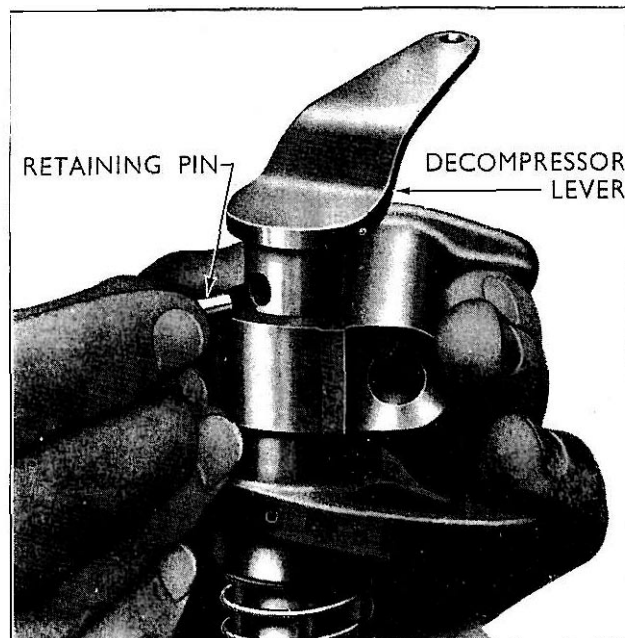

Fig. 3
- 1 Stand the assembly on end with the decompressor lever uppermost, push the rocker levers, springs, eccentric sleeves and support brackets downwards until the pin retaining the decompressor lever or the end plug is revealed. Remove the pin and withdraw the decompressor lever or end plug assembly. (See Fig. 3.)